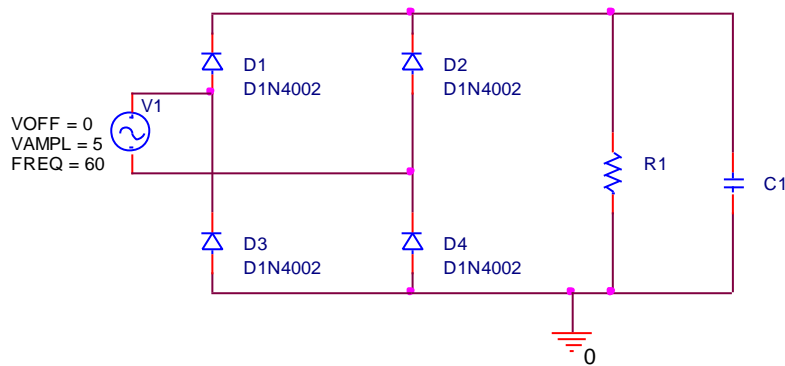

Figure 4-4: Full-Wave Rectifier
7. Build a full wave rectifier as shown in figure 4-4